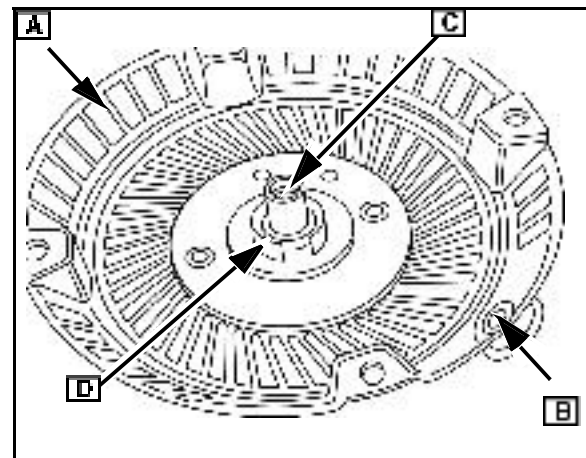

Fig. 24
2. Inspect starter housing (A) for wear or burrs at starter housing eyelet (B), center pivot post (C), and at inner spring retainer ([D] Fig. 24). Replace damaged or worn components.